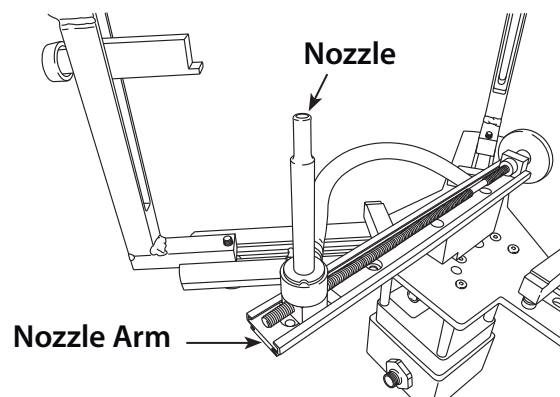

Figure 11
8. Thread the nozzle onto the arm. A Nozzle Wrench (4422010-6) is supplied to securely fasten it in place. (Figure 11)